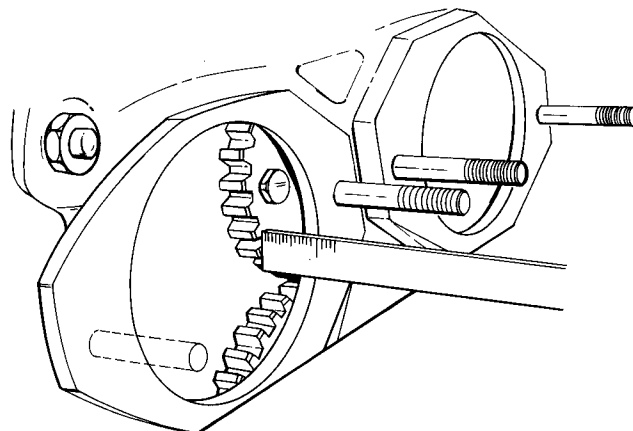

Figure 1
- B. Using a scale, depth micrometer, or other suitable measuring device, measure from the end of the camshaft gear to the mounting pad on the accessory case. See Figure 1.